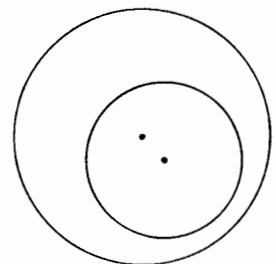

Fig. 60
62. *Excentric* circles are described from different centers but one circle is within the other. Fig. 60.